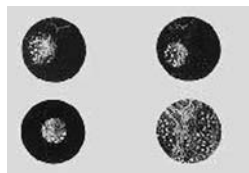

Figure 49: establish Koehler illumination
6. Establish Koehler illumination by setting the condenser height, centering the field diaphragm, and adjusting the aperture diaphragm to match the objective in use. (Leica users can refer to the Leica DM R user manual, Figure 49.) Discussion of Koehler illumination is outside the scope of this article.